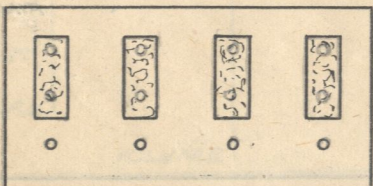

FIG 5 FOR 235-250 V
- Set the "Battery-Mains" plug to "Mains" and adjust the voltage selector to the highest setting (235-250) Fig. 5.